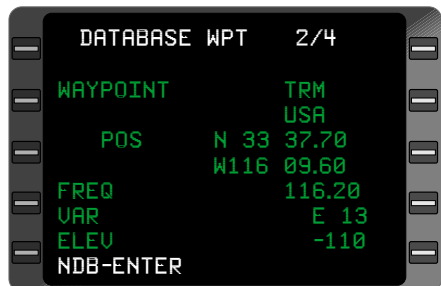

Figure 3-14
1. Duplicate Waypoint Identifiers: There are several waypoints around the world with same identifier. If the identifier selected has more than one waypoint associated with it, additional pages will be indicated on line 1. i.e.1/2, 1/4, etc. The waypoint nearest the aircraft position will be displayed first. (Figure 3-14)